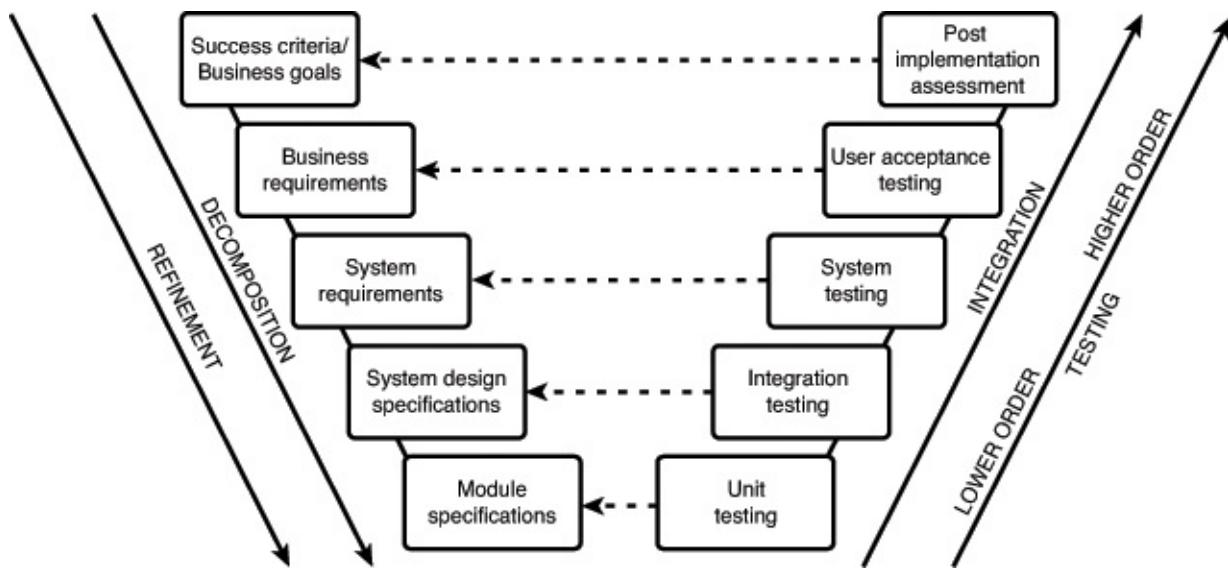

Figure 10.2. V method approach for a software development project.
- **V method**—The *V method* is a term used for a common validation and verification approach that ensures that there is validation and verification step for every deliverable and interim deliverable created. The left side of “V” notes each targeted deliverable and the right side of the “V” lists the verification method to be used for each deliverable directly across. The diagram in Figure 10.2 helps illustrate this method.